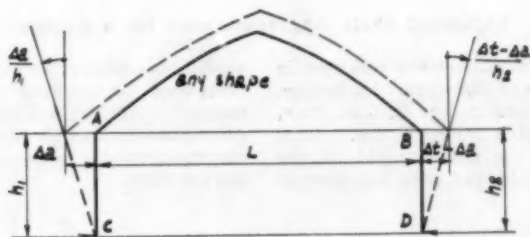

Fig. 25.
CHANGE OF TEMPERATURE.—The influence of change of temperature on frames with curved members, of any shape (Fig. 25), can be calculated from the general equations (30), which require only slight modification as follows: